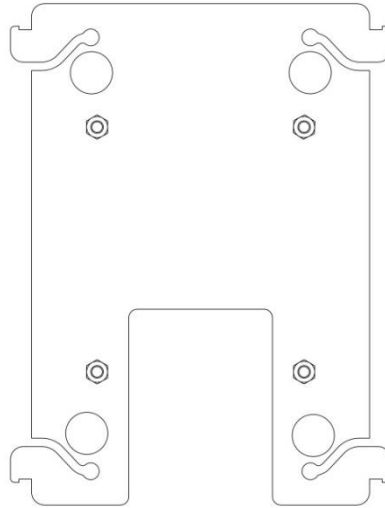

Figure 2
- 5) Fit 4x self-adhesive rubber feet to the underside (the side with nuts) of the base plastics as shown in *Figure 2*. Note that the position of the feet will affect the stability of the unit in use.